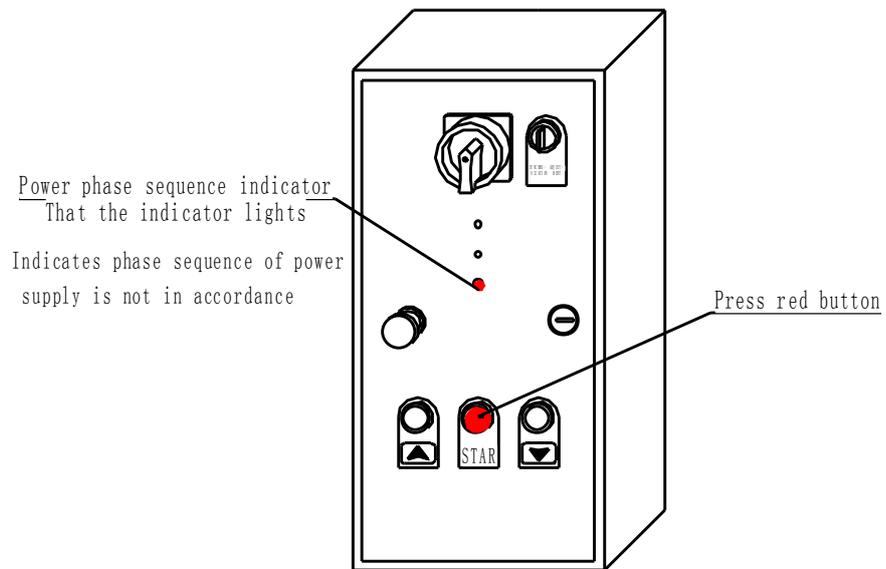

fig 22
3) Pay attention to indicator. That the indicator lights indicates phase sequence of power supply is not in accordance with that of transmission-line system of electric power]. Press red button in the middle of control panel for 3s, no sound for main contactor's contacting due to magnetic force (see fig 22)